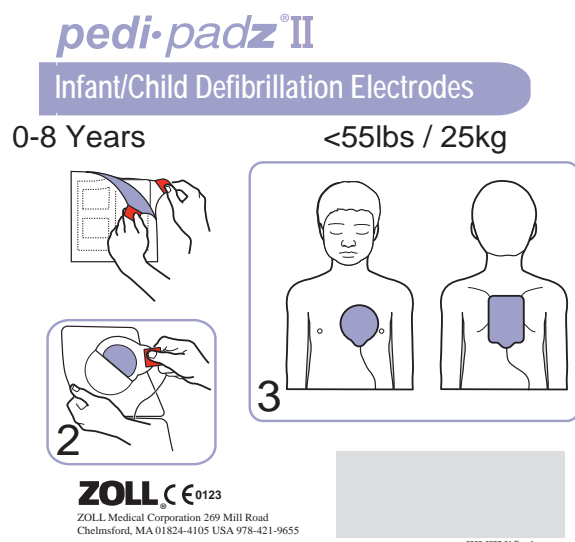

Figure 6: Placement of pedi-padz II
1. Tear open the electrode package and unfold the inner package to expose the electrodes. Place the electrodes on the victim according to the graphics on the package (see Figure 6).
2. Remove the round electrode from its backing material and place it on the victim's chest (as shown in Figure 6).
4. Roll the victim onto his/her chest, remove the square electrode from its backing and place it on the victim's back (as shown in Figure 6).